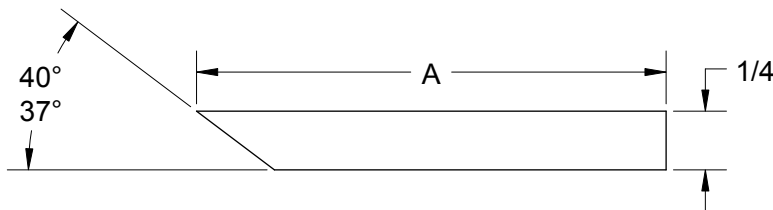

Figure 4
- d) Lay the knife down on the knife shelf. Insure the knife is installed with the **cutting angle edge facing down** as shown in Figure 4. Loosely install the three knife clamps with the nine knife mounting bolts. Tighten the mounting bolts just enough to hold the knife in position while still allowing it to be moved.